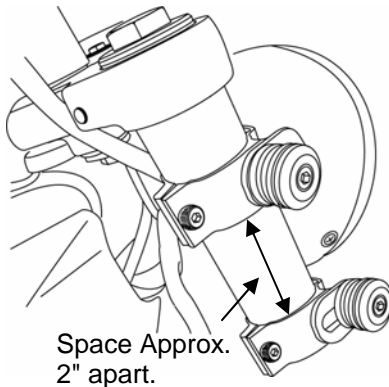

Fig. 3
4. Start with Fork Clamp Bushing adjusted to rear of slot (Fig 3) Then adjust as needed and check for clearance. (See warning above.)